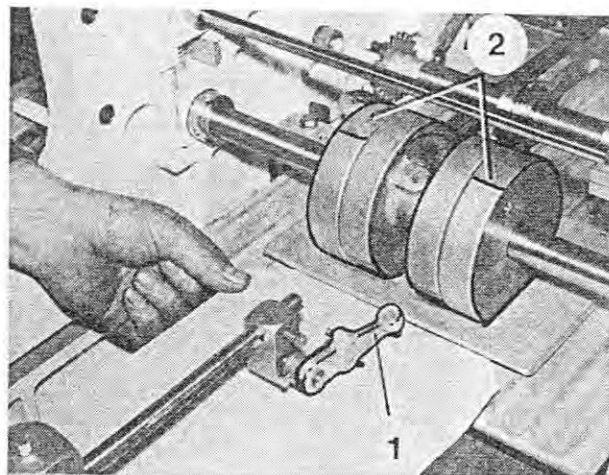

Fig. 105
18. Slip the wrapper below the advance segments (Figure 105/2) until the register finger (Figure 105/1) fits into the register hole or, when wrapper with print marks is used, the front edge of the wrapper contacts the cutter knife.